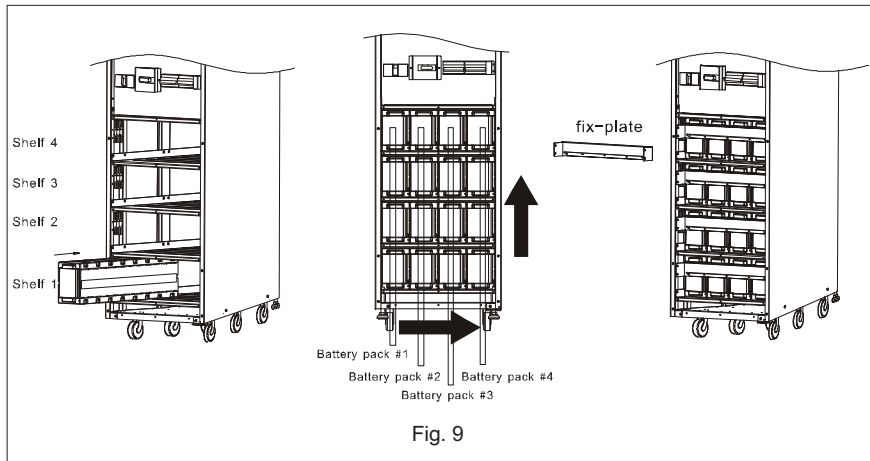

Fig. 9
4. Put the battery packs into the enclosure from left to right and bottom to top and cover each shelf with a fix-plate(see Fig. 9) (please refer to Fig.4 for corresponding battery packs).